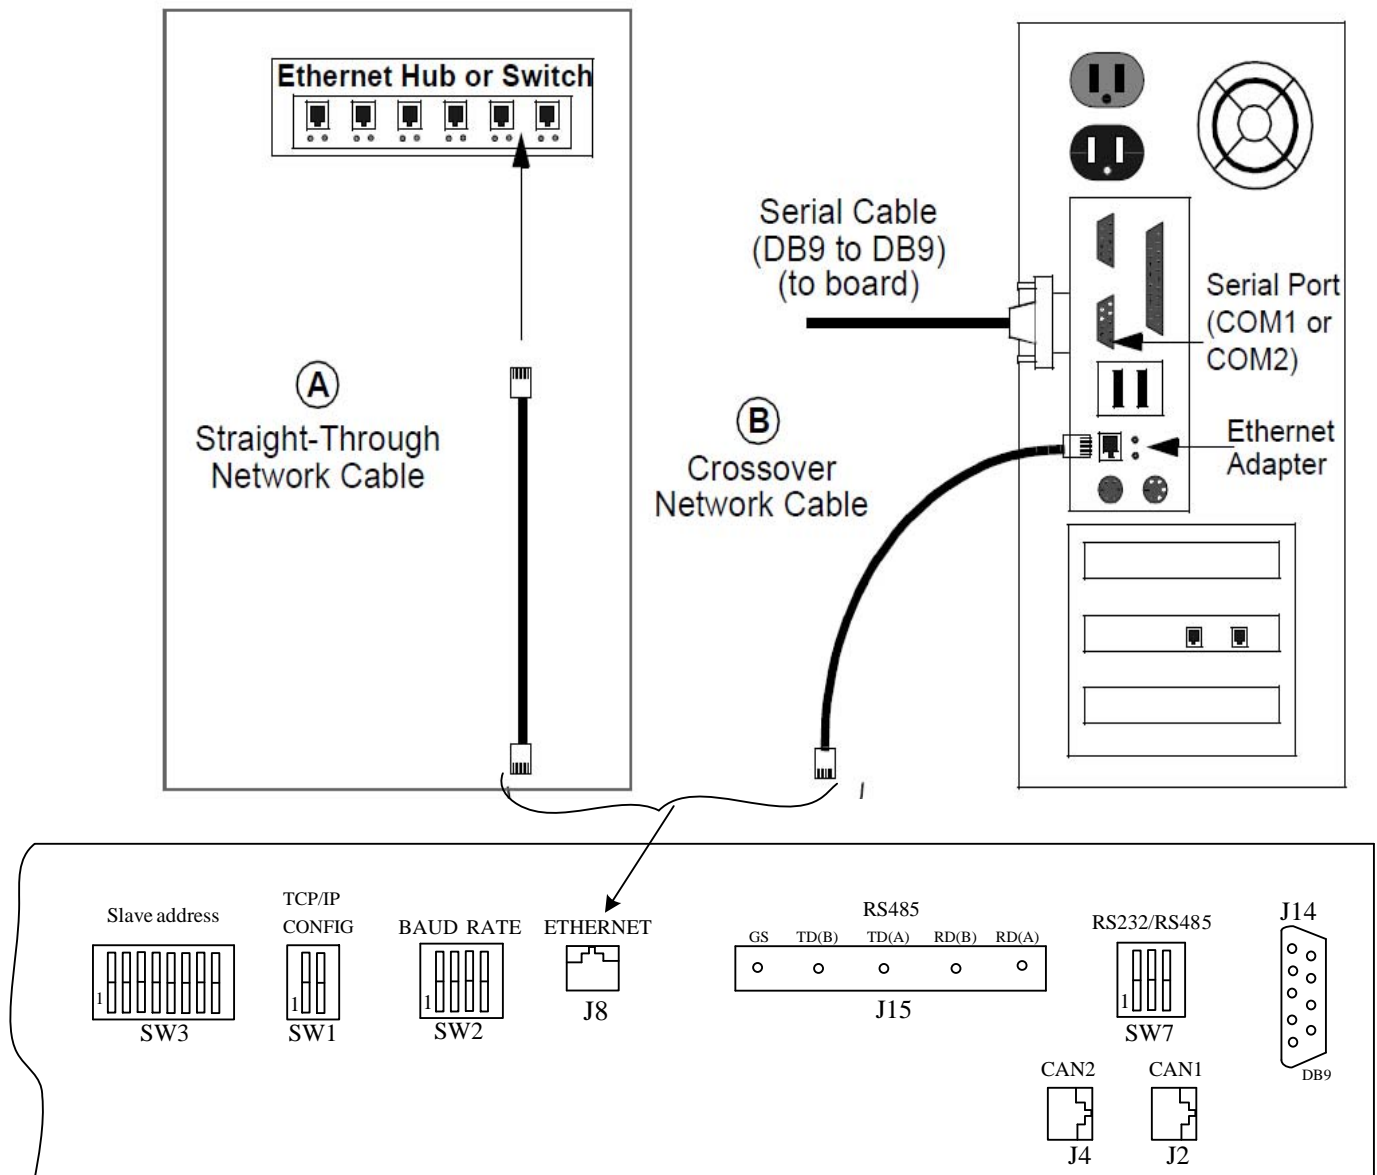

Figure 5. CONNECTING THE PCOM BOARD TO A NETWORK
To set up the board for connection to a local host (Figure 5):
2. Depending on the network connection to be used do one of the following: **For connections through an Ethernet switch:** Connect a standard Ethernet cable to the board, then to a port on the Ethernet device (Option A in Figure 5). The computer should already be connected to the switch by a straight-through cable. **For direct connections to a host system:** Connect the Ethernet crossover cable to the board, then to the computer (Option B in Figure 5).